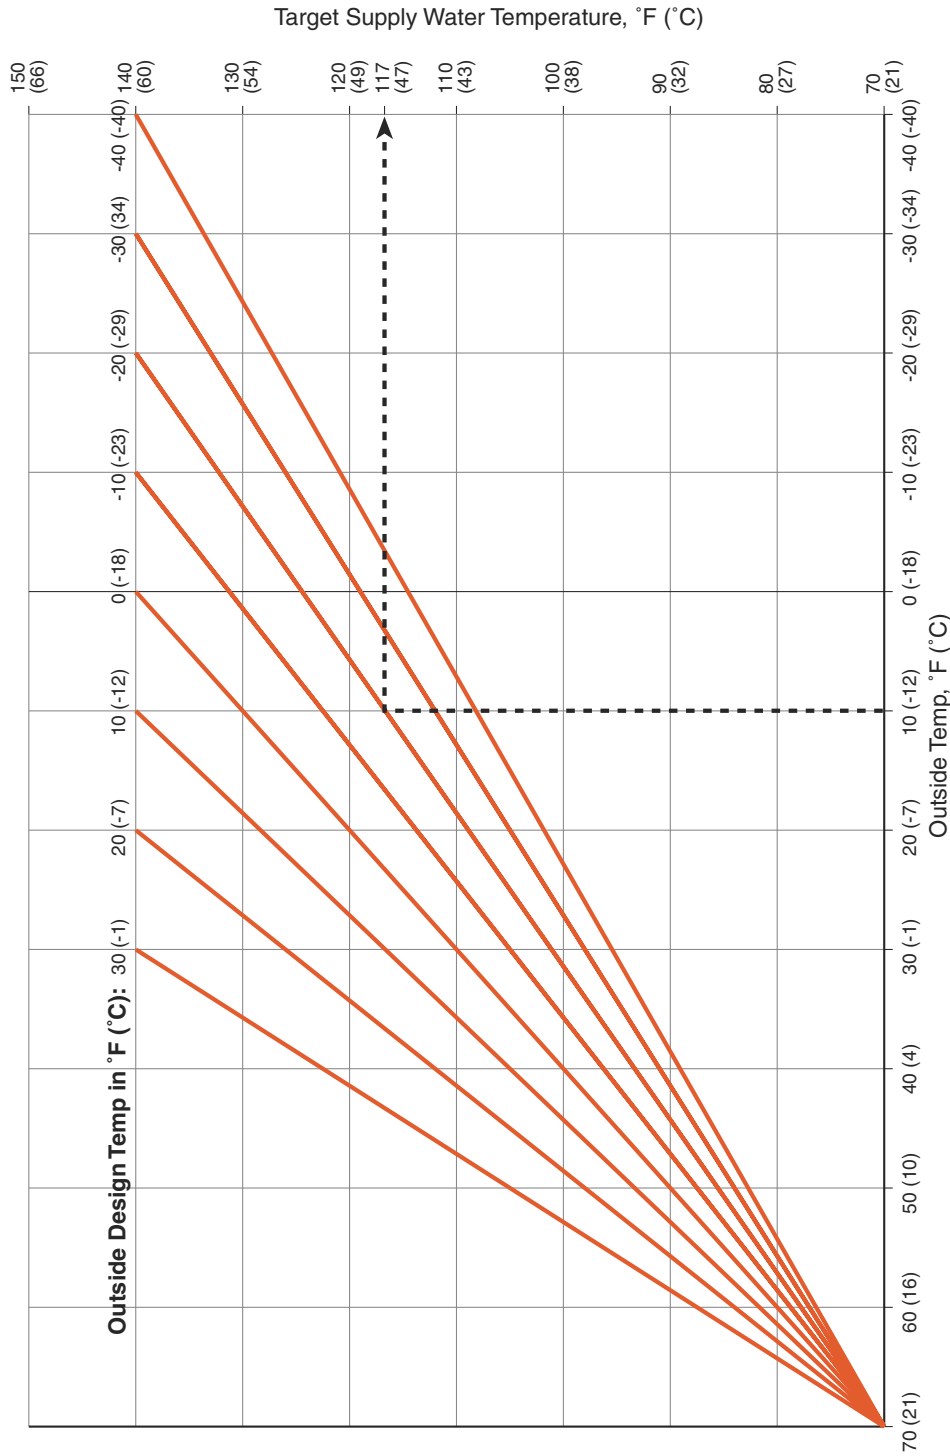

Figure 4. Calculating target supply water temperature
4. Calculate the target supply water temperature using Figure 4 on the previous page